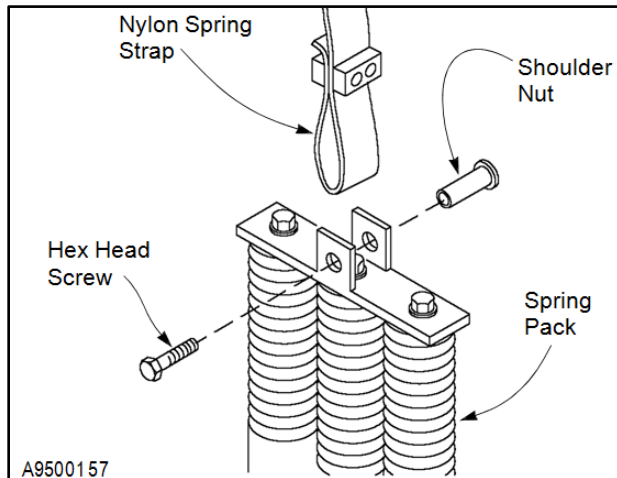

Figure 34
5. Inspect the hardware securing each spring strap to its spring pack. Tighten the hardware as required. Replace any missing or damaged hardware. (See Figure 34.)